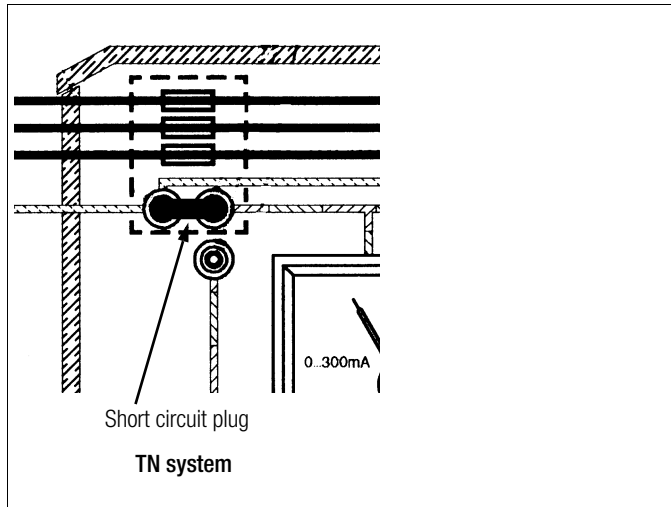
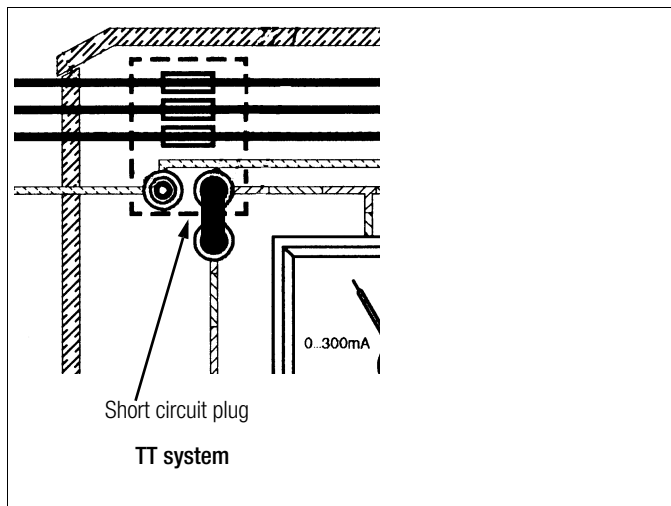
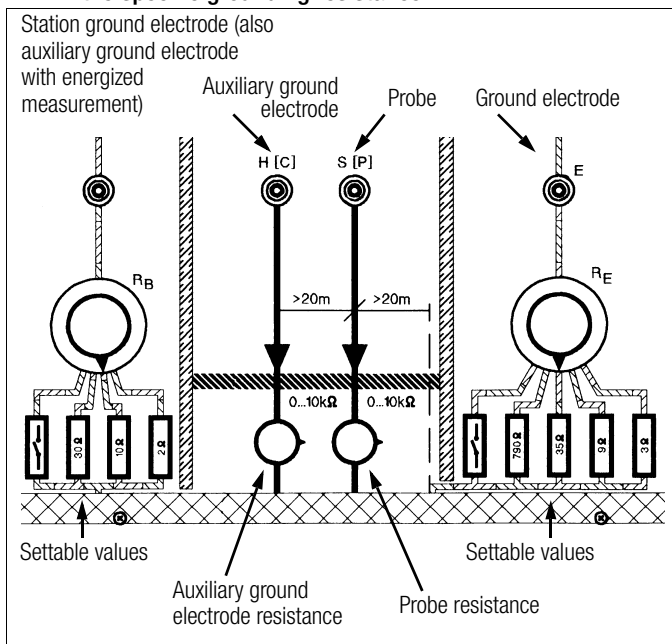

figure 6.1-1
figure 6.1-2
figure 8.1-1
- ⇨ Set the desired system configuration with the short circuit plug (accessory), siehe figure 6.1-1 and figure 6.1-2.
In the TT system [figure 6.1-2], you can connect different grounding resistances with the switches R_B or R_E [figure 8.1-1] for demonstration purposes.
- ⇨ Connect the probe connection of the tester with the socket S(P) [figure 8.1-1].
For demonstrating measurements of the grounding resistance and the specific grounding resistance without system voltage, use the sockets E, H [C] and S [P] [figure 8.1-1]. The simulator must be switched off for the measurement. The influence of the probe resistance and the auxiliary ground electrode can be demonstrated with the adjusters RS and RH [figure 8.1-1].